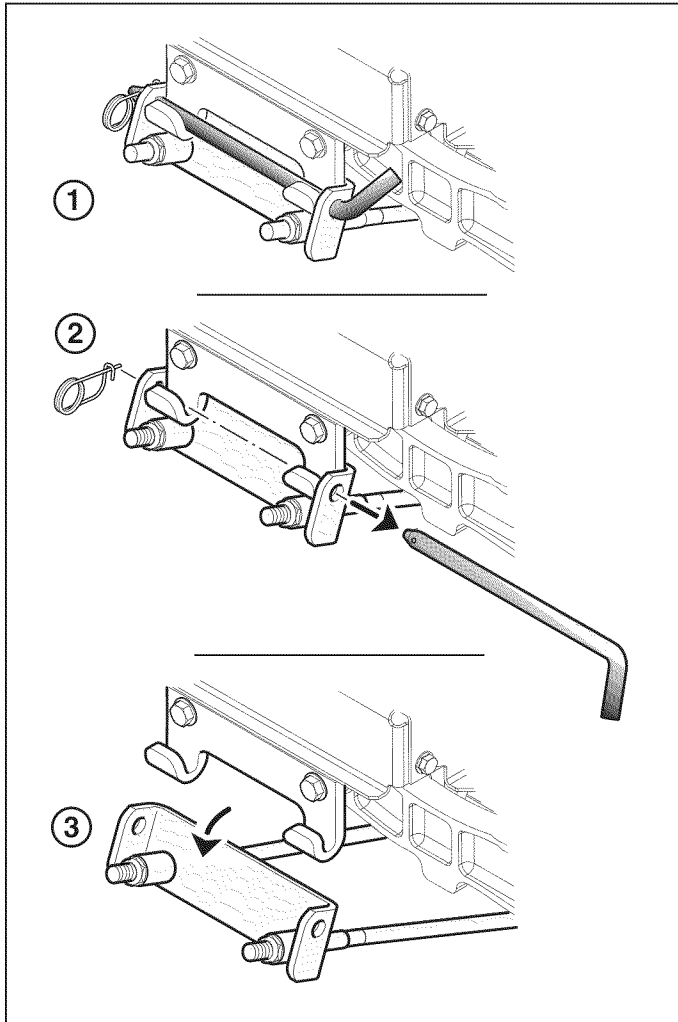

Figure 18
5. Turn the wheels straight ahead. Remove hitch pin and safety clip that attach mower hanger to tractor hitch bracket (see 1-3, Figure 18).